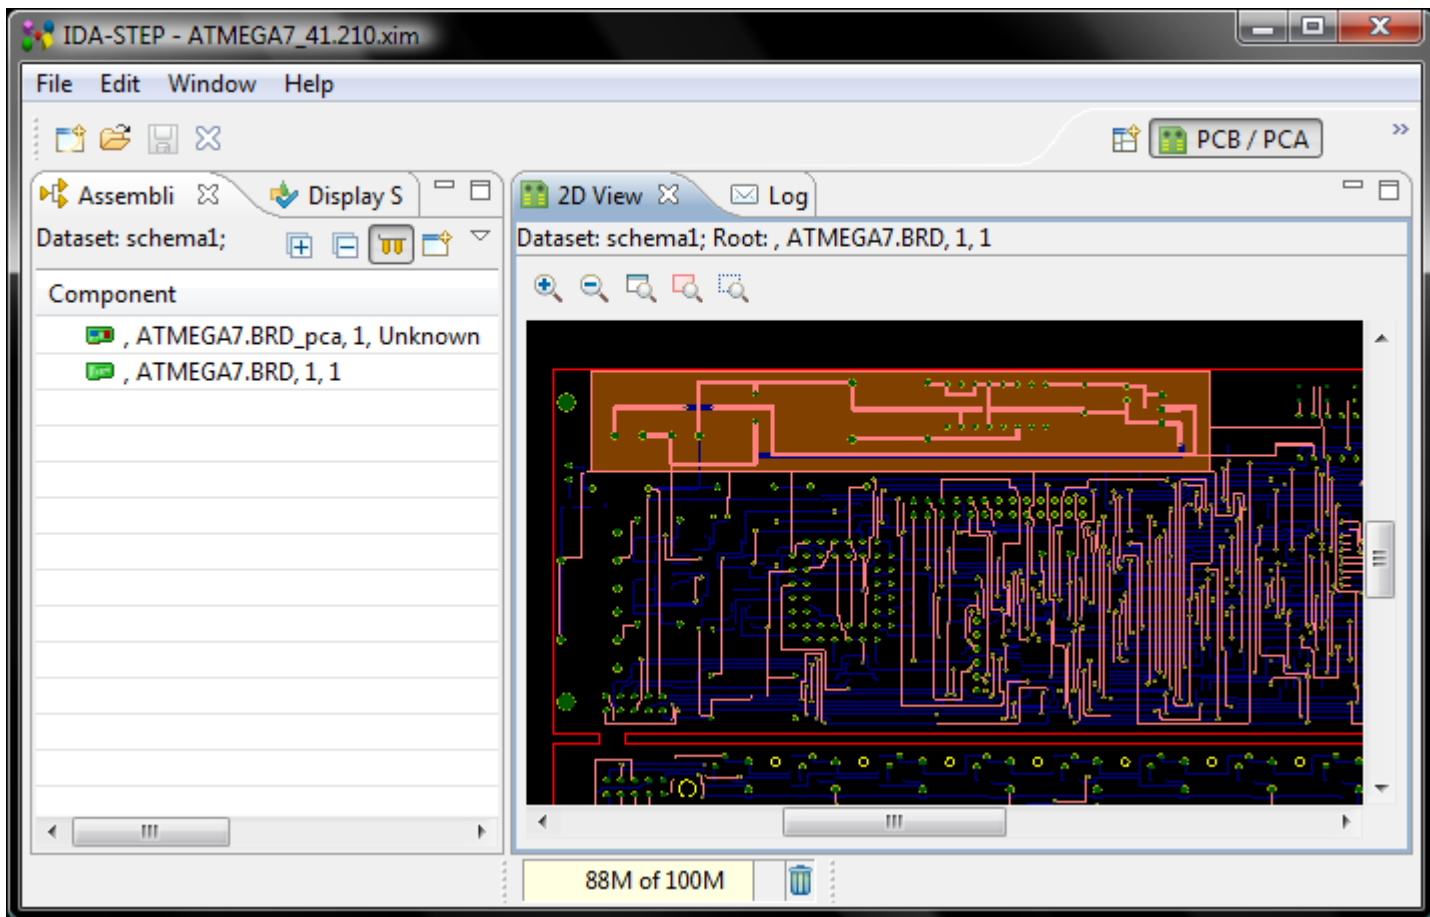

Figure 1. STEP file with PCB data
- The STEP file with the desired PCB data has to be opened in the IDA-STEP (see Figure 1).